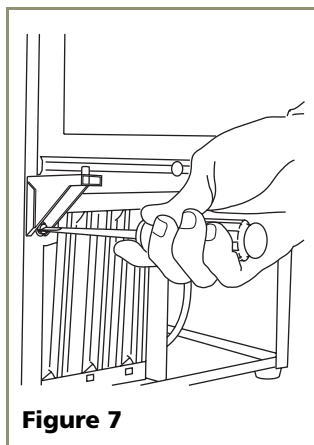

Figure 7
4. Install hinge on opposite side, bottom of cabinet. See **Figure 7**. Replace nut on back side where installed. Align hinge outer edge with cabinet before tightening screws.